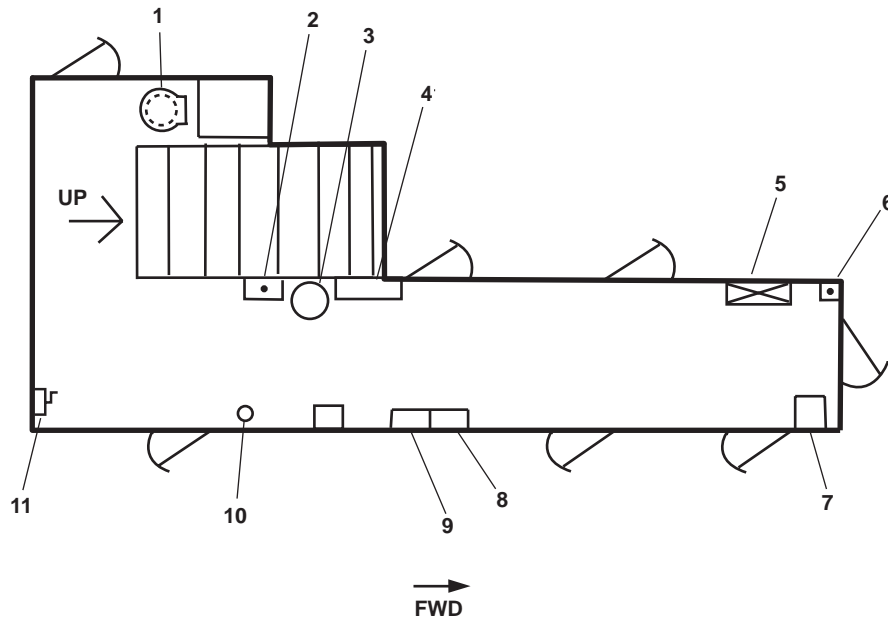

Figure 8. Main Deck Passageway
1. Scuttle (escape hatch) (figure 8, item 1). The scuttle provides an emergency escape from Enclosed Operating Space (EOS).
2. Fire alarm pull station (figure 8, item 2). The fire alarm pull station activates the fire alarm in the EOS and pilothouse when pulled.
3. Fire extinguisher (figure 8, item 3). The fire extinguisher used to extinguish small fires on the main deck level.
4. Life jacket locker (figure 8, item 4). Located under the ladder, the locker provides storage for life jackets.
5. Fire Station 6 (figure 8, item 5). The firefighting station uses raw water and is equipped with 50 feet (15.24 m) of 1-1/2 inch hose and an all-purpose nozzle.
6. Fire alarm pull station (figure 8, item 6). The fire alarm pull station activates the fire alarm in the EOS and pilothouse when pulled.
7. Boatswain's store room/arms locker exhaust fan emergency stop (figure 8, item 6). The boatswain's store room/arms locker exhaust fan emergency stop turns OFF ventilation from the arms locker.
8. 120V distribution panel No. 3 (figure 8, item 7). This panel provides 120 volts power for the main deck port and starboard lights, port, starboard and sanitary space electrical receptacles. This panel also provides 120 volts power to the mess room lights, drinking fountain, 01 & 02 level reheater 120V fuse box No. 1, and the Deck Reheater 120V Fuse Box No. 3.
9. Deck Reheater 120V Fuse Box No. 3 (figure 8, item 8). This fuse box provides fuse protection for main deck reheaters.
10. General alarm bell (figure 8, item 9). The general alarm bell signals various emergency conditions on the vessel.
11. AMS 1 Watertight door remote hand pump (bulkhead) (figure 8, item 10). This remote hand pump is used to open or close the AMS 1 watertight door.